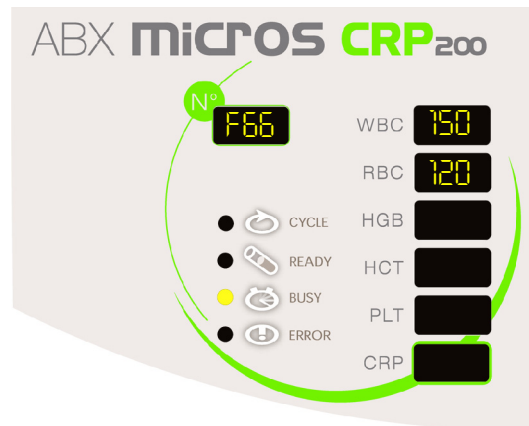

Fig.2: RBC bubbling display
- ◆ Press Enter to display Bubbling 2 value in RBC display (See "Fig.2: RBC bubbling display, page 3").